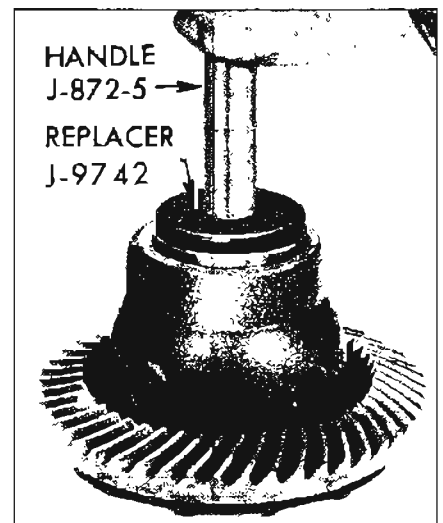

Figure 6-32—Installing Differential Bearing Outer Race
1. Drive differential bearing outer races into case, using Replacer J-9742. See Figure 6-32.
2. If a differential bearing outer race was removed, drive new race into case using Replacer J-9742 as shown in Figure 6-32.